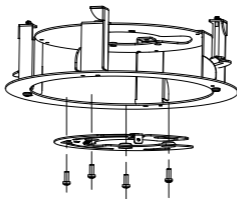

Figure 2-44 Fix the Base Plate to In-ceiling Bracket
3. Align the cable holes of the base plate to the cable holes of the in-ceiling bracket and then fix the base plate onto the bracket with the four screws in the package (supplied), as shown in Figure 2-44.